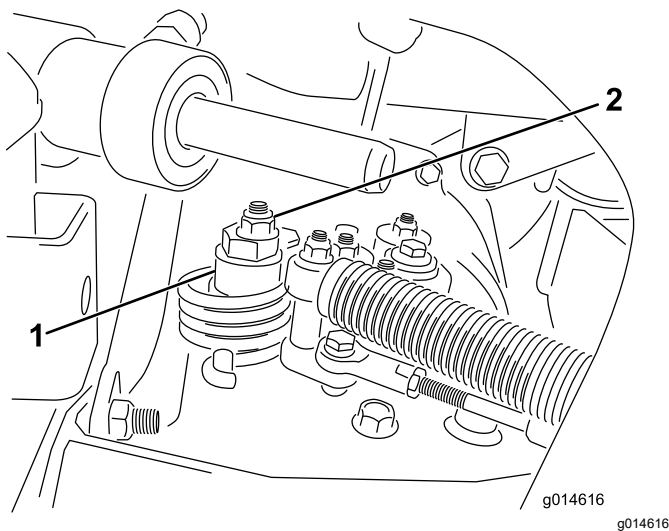

Figure 42
- A. Loosen the nut securing the eccentric to the top of the hydrostat (Figure 42).
- C. Rotate the eccentric until creep does not occur in either direction. When the wheel stops rotating, tighten the nut locking the eccentric and the adjustment (Figure 42). Verify the adjustment with the throttle in the SLOW and FAST position.